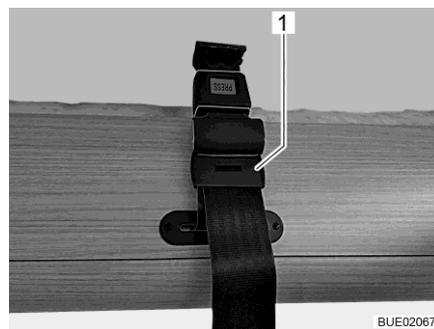
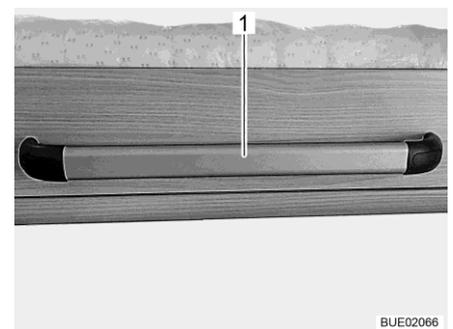

Fig. 137 Retaining belt on pull-down bed
Fig. 138 Handle on pull-down bed (Lyseo I)
- Pull-down bed with retaining belts: Release retaining belts (Fig. 137,1) and pull pull-down bed (Fig. 138,1) down at the handle.
- Pull-down bed with retaining belts: push pull-down bed upwards at the handle (Fig. 138,1). Secure pull-down bed with both retaining belts (Fig. 137,1) on the left and right.